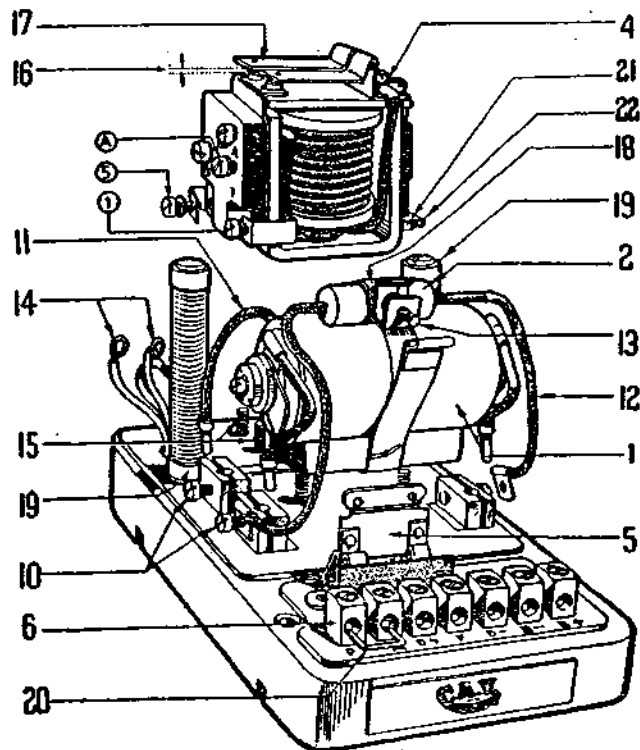

Fig. 20.
## 2. Description and Operation (Figs. 20 and 21.)
A condenser .020 mfd. capacity, is connected across the regulator terminals as illustrated in Fig. 20 for the purpose of suppressing interference with radio receivers.
**CONTROL BOARD—continued.****REGULATOR.****To replace Regulator complete (Fig. 20).**
- (a) Release all terminal screws (10).
- (b) Take out regulator leads (11).
- (c) Remove condenser leads (12).
- (d) Release cradle strap screw (13) and open strap.
- (g) Remove 3 connections (14) from terminals marked A.5 and 1.
- (h) From back of board take out 4 screws (15).